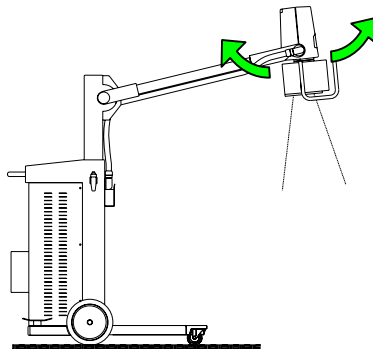
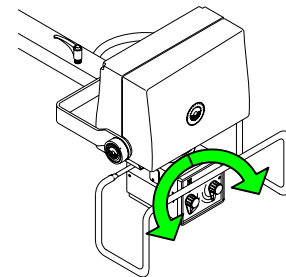

Figure 10
Figure 11
- Position the monobloc-collimator assembly over the relevant area of the patient (see Figure 10 - Figure 11).